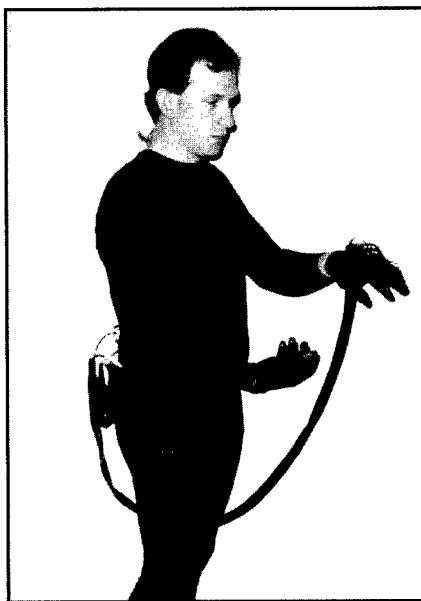

Figure 1. PK-SUIT with two PK-Gloves
**A** new modular technology has been developed to support the need for high-performance relative position measurement of the human body and mechanical apparatus in dynamic applications. Multi-channel sampling rates of up to 1000 Hz each are possible. The PhysioKinetics (PK) goniometer platform is a wearable line of systems and devices providing user-friendly, versatile, high-performance measurement and control inputs at an affordable cost. It is designed for wide applications and unlimited configurations, from ankle position input to head tracking in high performance aircraft during high "G" maneuvers. Analog magnetic sensors provide the basis for this capability. These systems can be configured to measure from 1 to 88 different human joints, and offer low noise susceptibility, reliable data collection, high resolution, instant graphic representation, and many data communication options. A typical PK system is shown in Figure 1.